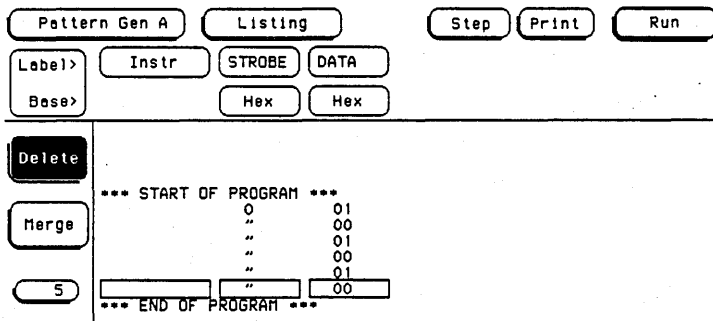

Figure 4-5. Delete Field
- e. Touch Delete. See figure 4-5.